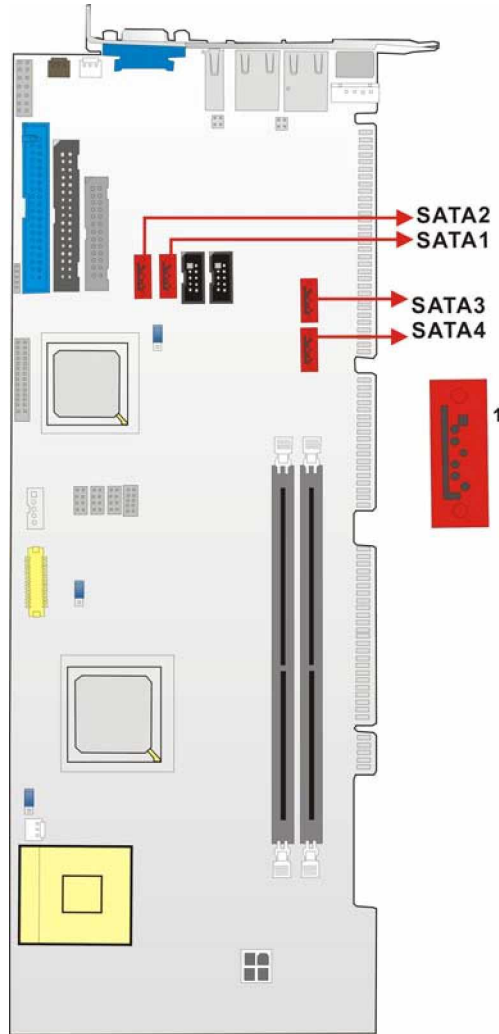

Figure 3-11: SATA Connector Locations
**CN Location:** See Figure 3-11